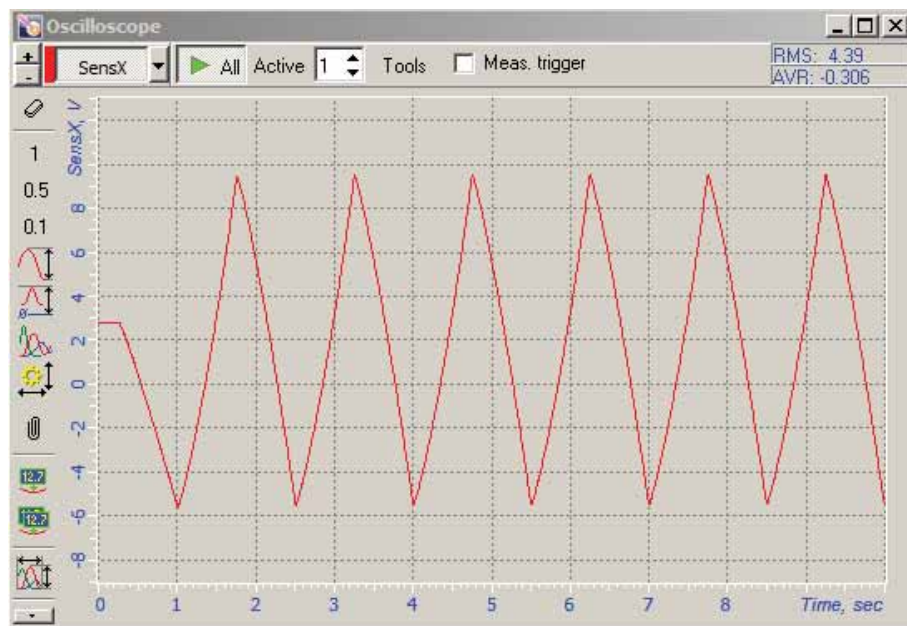

Fig. 1-11. Verification of the X-sensor adjustment.
- If the signal peak-to-peak amplitude is not less 13 V and the signal average is outside the range ± 1 V (Fig. 1-11), adjustment of the X-sensor is to be done (see i. 1.3.2 on page 211).